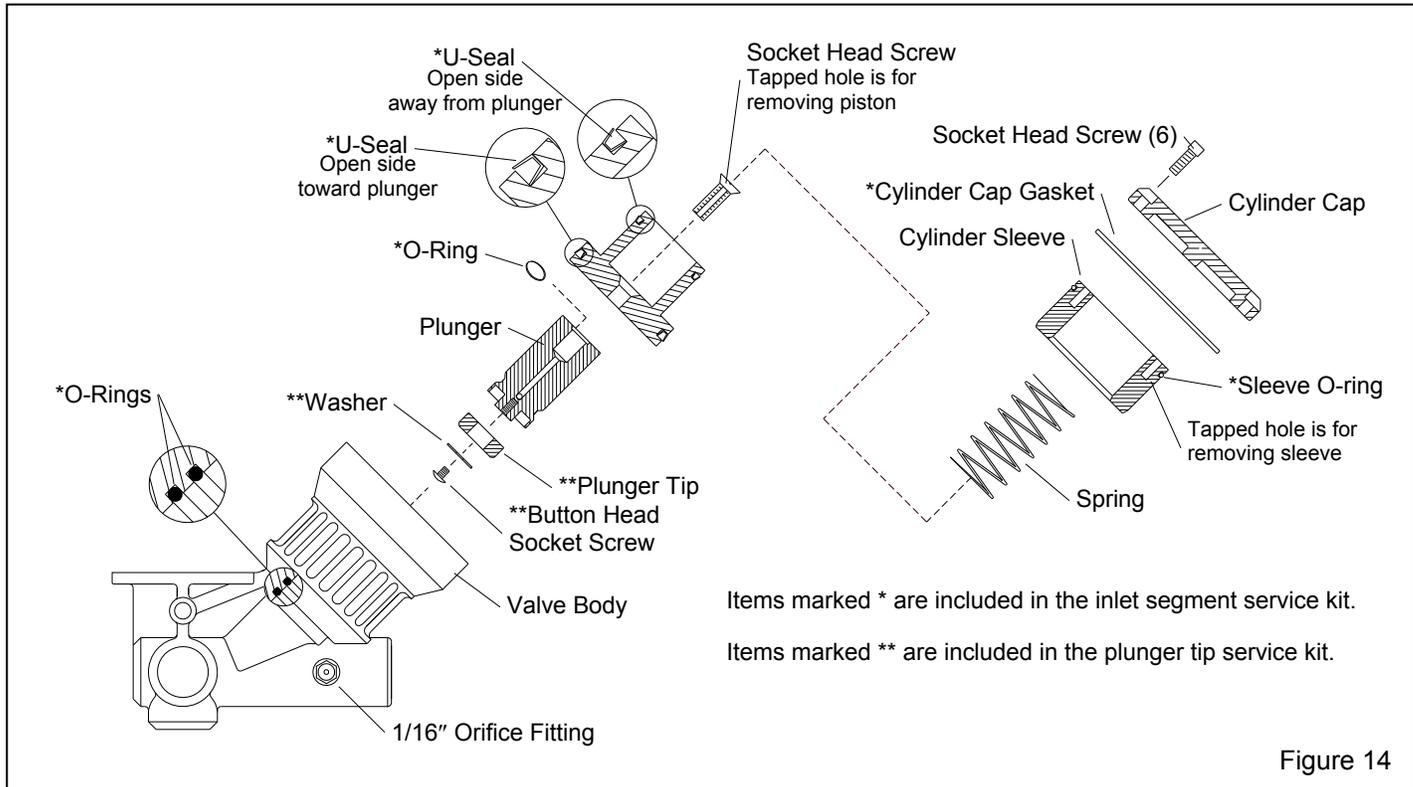

Figure 14
6.3 Millennium Valve Inlet Segment, Figure 14.
6.3.10 Place the u-seals into the grooves on the piston, the open side of the large seal faces the plunger, and the open side of the small one faces away from the plunger, as shown in Figure 14.
6.3.15 If fittings on the body were removed, make sure the $1/16''$ orifice fitting is threaded into the port, as shown in Figure 14.